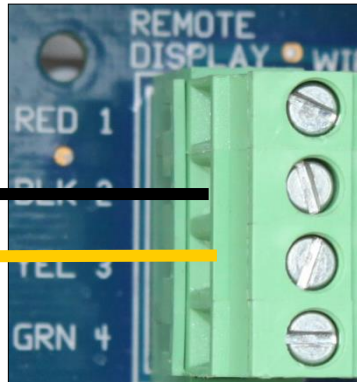
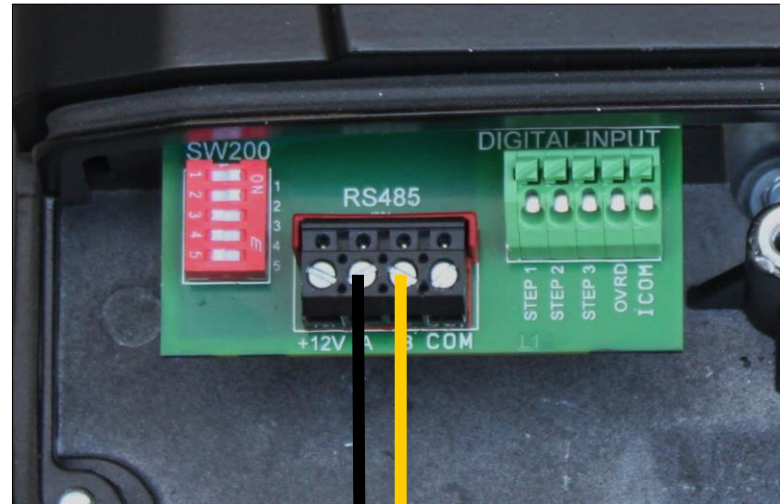

Figure 18
Figure 19
2. Remove the 4 connector data plug from the controller (fig 18) and the RS485 data plug (COMBUS & DISPLAY) from the wiring compartment on the pump (fig 19) . Wire "A" on the pump to 2 on the controller, "B" on the pump to 3 on the controller as shown (fig 18 & 19). Reinstall plugs.